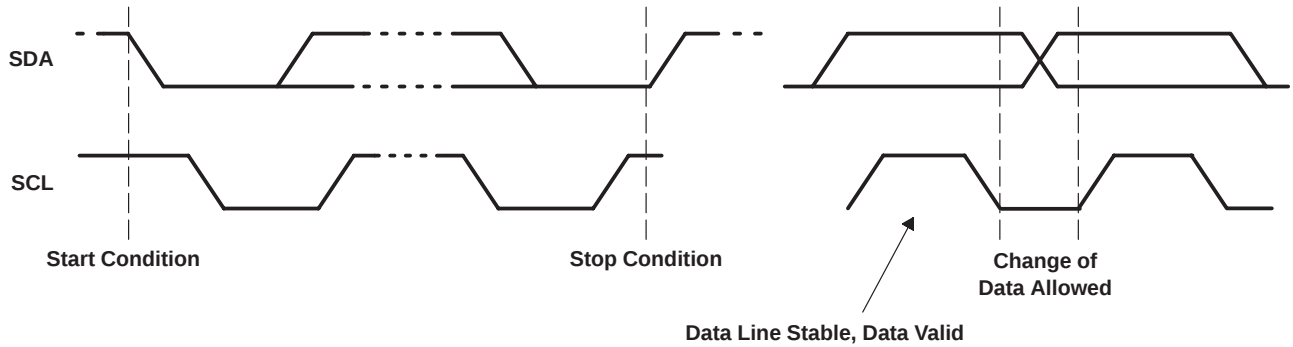

Figure 2. Serial Bus Start/Stop Conditions and Bit Transfers
All data transfers are initiated by the serial bus master. The beginning of a data transfer is indicated by a START condition (S) when the SDA line transitions to a low state while SCL is in a high state as illustrated in Figure 2. The end of a requested data transfer is indicated by a STOP condition (P), which is the low-to-high transition of SDA while SCL is in the high state. Data on SDA must remain stable during the high state of the SCL signal. Changes on the SDA signal during the high state of SCL will be interpreted as control signals, that is, a START or STOP condition.